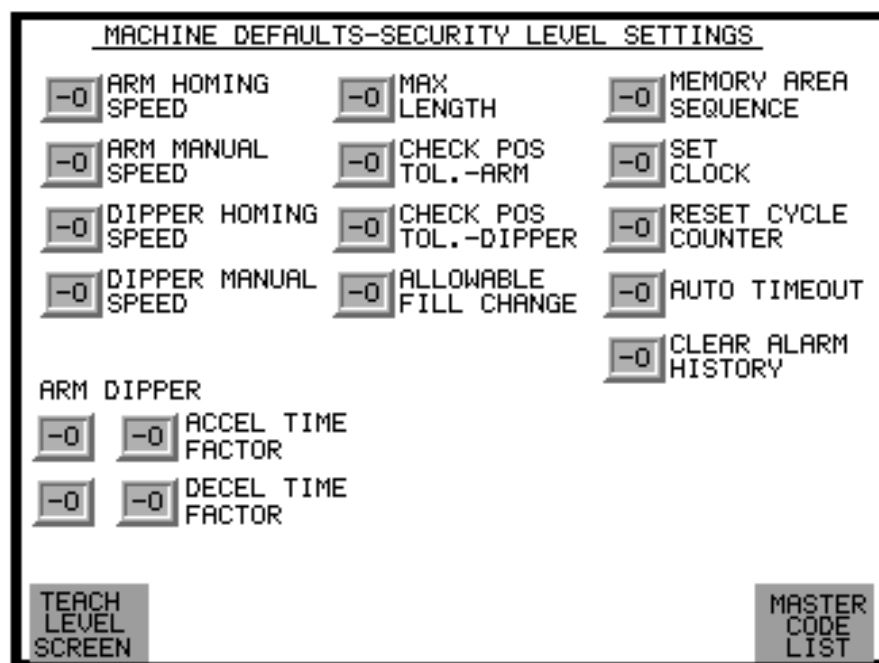

Figure 11-3: Defaults - Security Level Settings Screen
1. At the Master Security Screen, press the **DEFAULTS** key to access the Machine Defaults - Security Level Settings Screen (Figure 11-3).